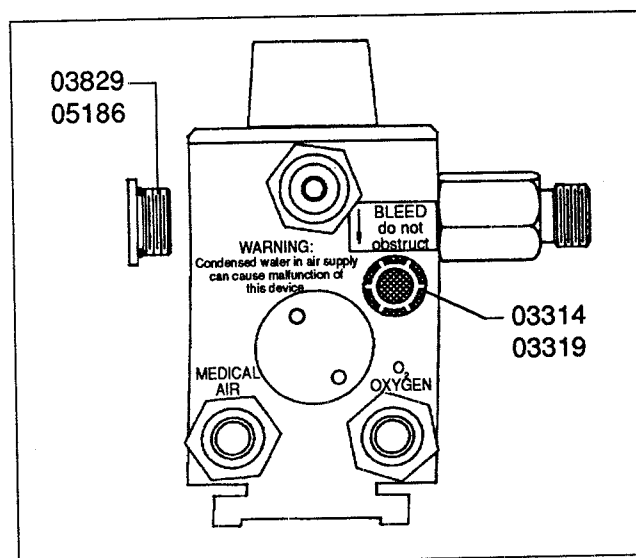

Figure 23
17.0 OUTLET CAP - LEFT SIDE FRONT OF VALVE BLOCK (FIGURE 23)
18.0 MUFFLER ASSEMBLY - BOTTOM OF VALVE BLOCK (FIGURE 23)